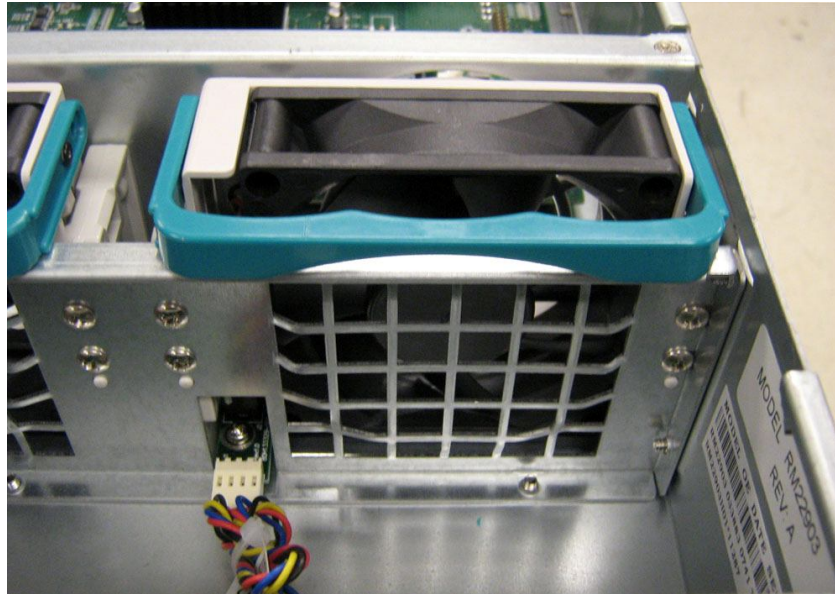

Figure A-16 A User Replaceable Fan with Green Handle
1. Locate the failed fan. They can be identified by their green handle as seen in Figure A-16.